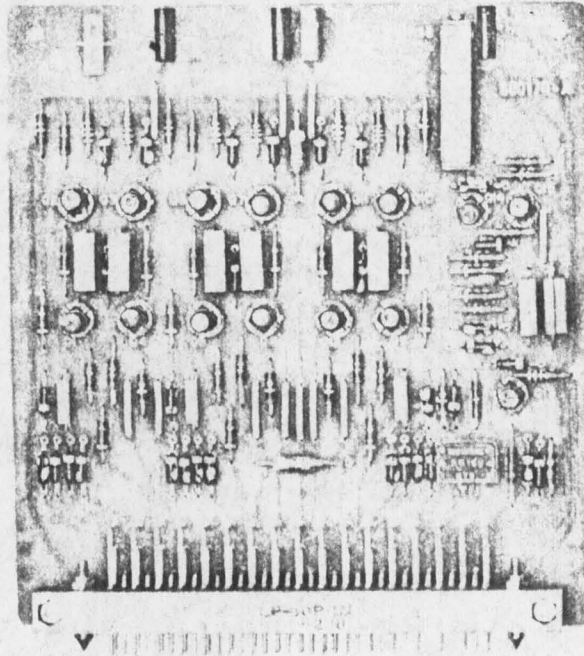

Figure 1. Power Driver and One Shot Model 600170
2. Description - The Model 600170 Power Driver and One Shot (see Figure 1) is a printed circuit board module consisting of three identical independent DC power driver circuits and a single monostable multivibrator (one shot). The circuit board is a standard 50-pin module card with components mounted on one side. The board assembly measures 5 x 5.4 inches and requires one standard space. Test points are provided on the top edge of the card for waveform observation and trouble shooting during operation.